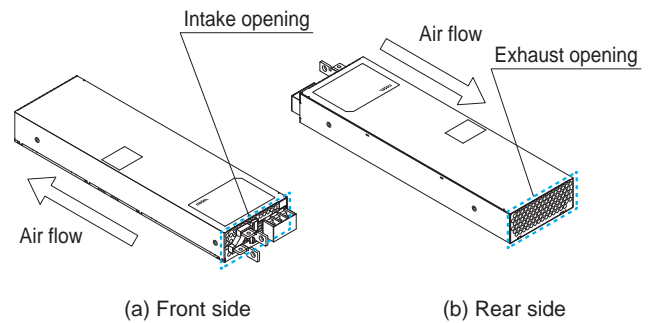
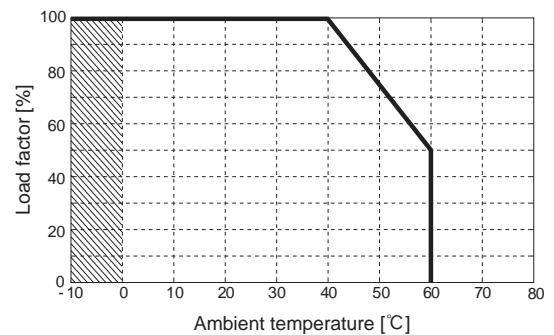

Fig.6.2 Location of intake port and exhaust port
Fig.6.3 Ambient temperature derating curve
- Differences from standard products are shown in Fig.6.2 and Fig.6.3.